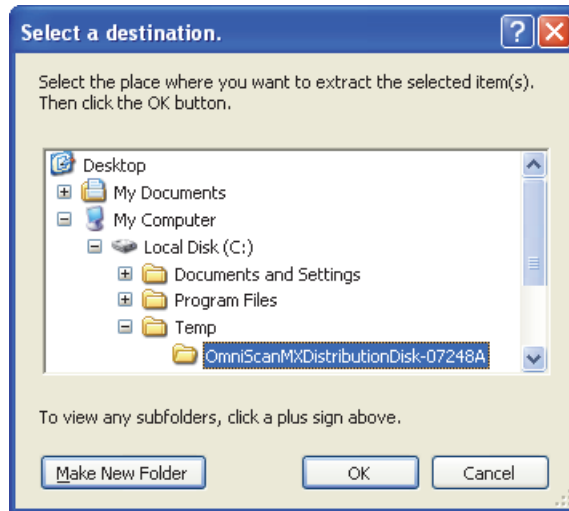

Figure 4-8 The **Select a destination** dialog box with an example of a destination folder
11. In the **Select a destination** dialog box, select a folder where you want to store the extracted files, and then click **OK** (see example in Figure 4-8 on page 70).